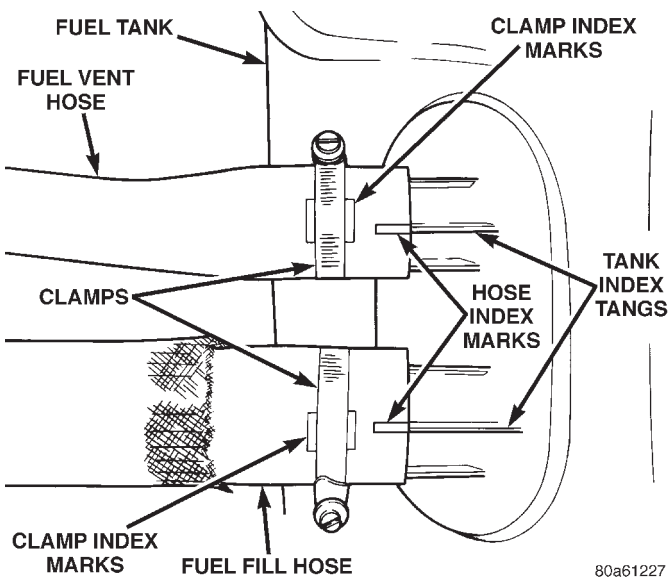

Fig. 39 Fuel Fill/Vent Hose Index Marks
(14) Carefully lower right side of tank while feeding both fuel hoses through access hole in body. **Fuel Tank Full And Not Drained Using DRB Scan Tool:** To prevent fuel loss through hoses, keep left side of tank higher than right side while lowering. Do not allow hose openings to drop lower than top of tank.
(15) Continue lowering tank until clear of vehicle. Place tank on floor with left side (hose side) higher than right side.
(16) Drain tank by removing fuel fill hose at tank. Fuel fill hose is largest of 2 hoses (Fig. 39). Insert the drain hose (from an approved gasoline draining station) into hose opening. Drain tank until empty.
(17) If fuel pump module removal is necessary, refer to Fuel Pump Module Removal/Installation in this group for procedures.
(1) If fuel pump module is being installed, refer to Fuel Pump Module Removal/Installation in this group for procedures.
(2) Install fuel fill/vent hoses to tank fittings. To prevent hose from kinking, rotate each hose until index mark on hose is aligned to index tang on fuel tank (Fig. 39).
(3) Install hose clamps to hoses. Position clamps between index marks on each hose (Fig. 39).
(4) Position fuel tank to hydraulic jack.
(5) Raise tank into position while guiding fuel fill and vent hoses into and through access hole in body.
(6) Continue raising tank until positioned to body.
(7) Attach two fuel tank mounting straps and mounting nuts.